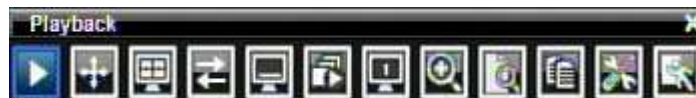

Figure 3-1 OSD Root Menu
1. Right-click the mouse to obtain DVR control bar (see Figure 3-1 OSD Root Menu ). When you move the mouse over each icon, the appropriate title will be displayed on top of the control bar.